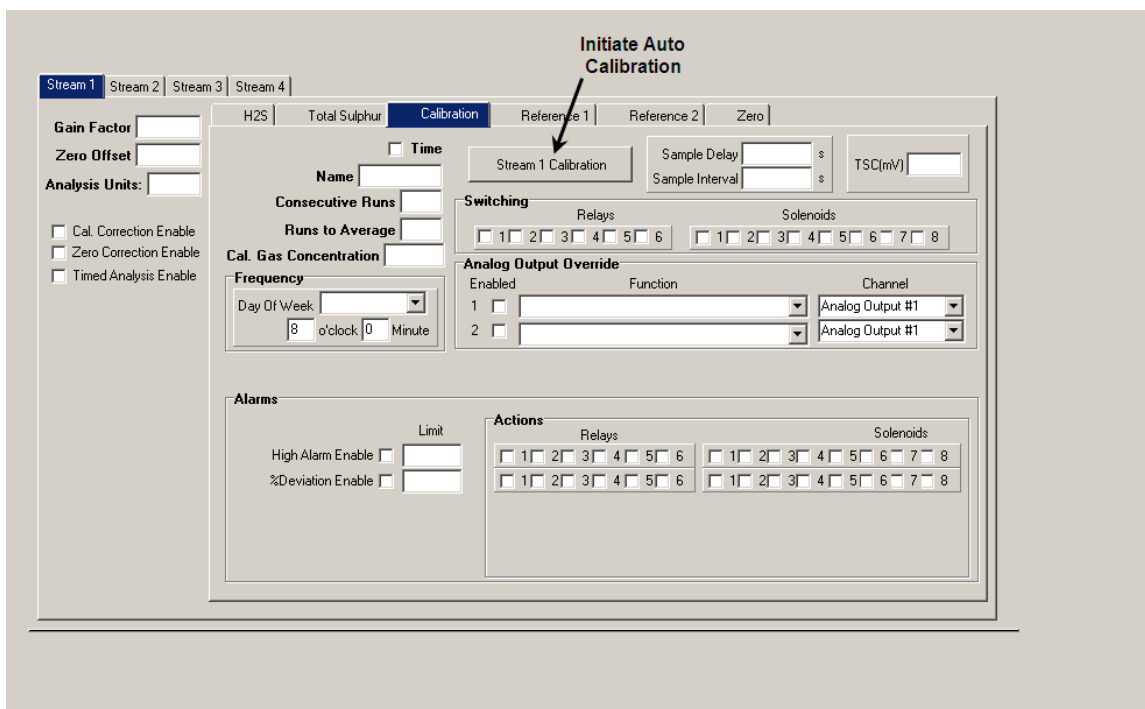

Figure 6-12: Initiate Stream Calibration
- a) Initiate an Auto Calibration run, either from the GUI or from the keypad. The Auto Calibration can be initiated from the GUI by pressing the “Stream 1 Calibration” button as shown in Figure 6-12. Alternatively, the Auto Calibration process can be initiated from the keypad by pressing F1 STRM, then using the F4 and F3 keys to scroll down to CAL. It will currently indicate that the status is OFF. Press the EDIT key on the keypad and press the ENTER key to toggle the value to ON.